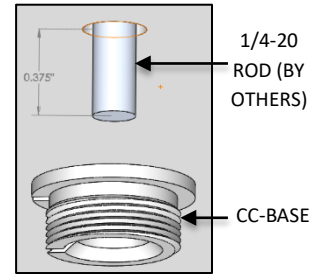

FIG. 10 - GRID CEILING
- Add a light thread locking compound to the 1/4-20 ROD (by others). Then thread CC-BASE to 1/4-20 ROD protruding through the ceiling material as shown in FIG. 10.